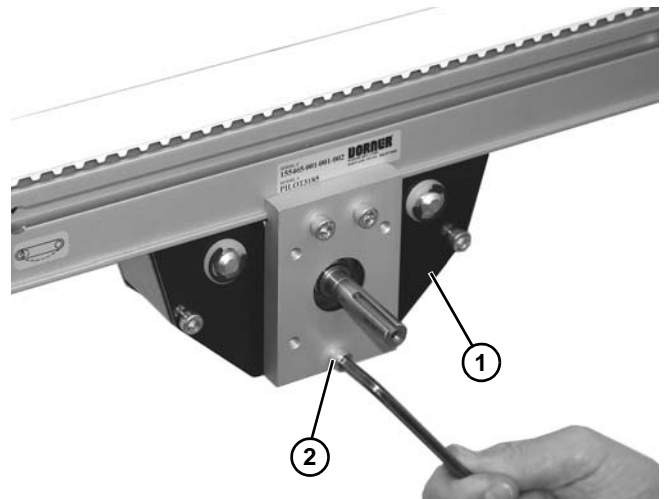

Figure 75
10. Secure mid drive assembly (**Figure 75, item 1**) with M6x25 socket head screw (**Figure 75, item 2**) on each side of assembly. Tighten M6x25 screw to 60 in-lb (7 Nm).